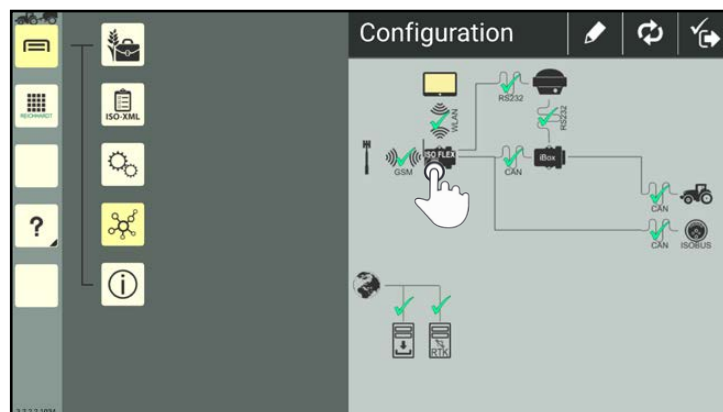

Fig. 159: Tapping ISO FLEX in the SMART COMMAND configuration
5. Tap the ISO FLEX symbol in the SMART COMMAND configuration (see Fig. 159).